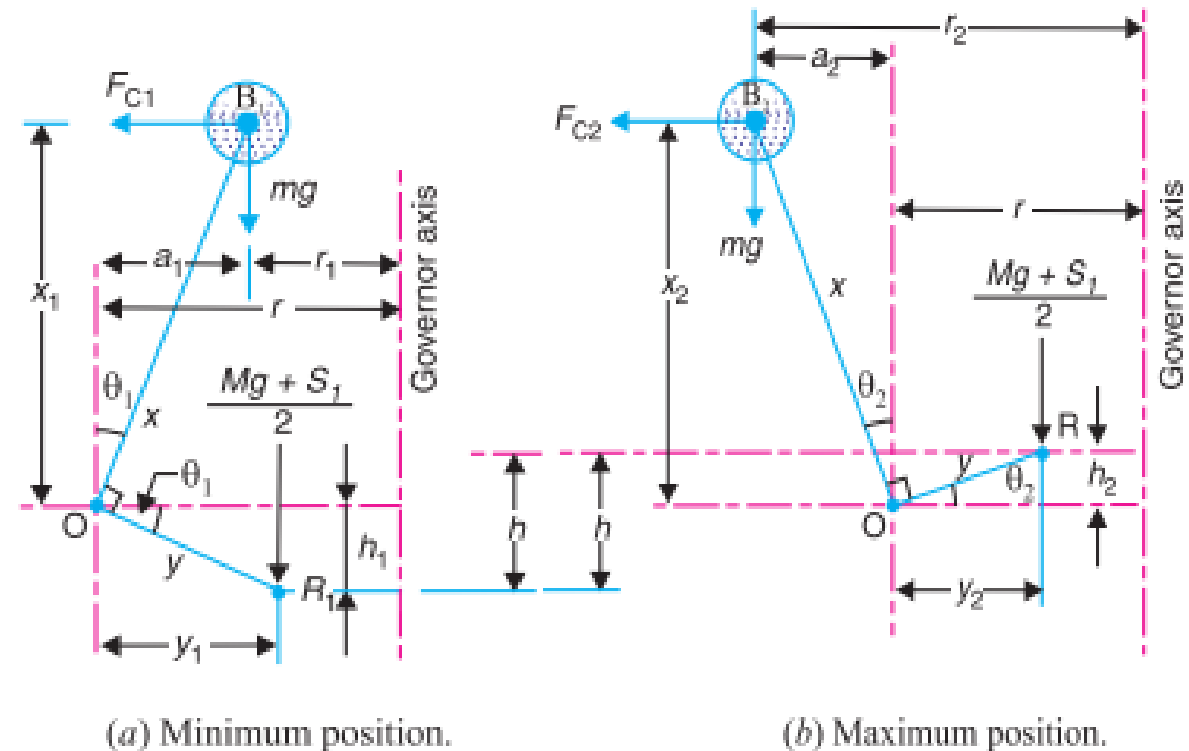

Fig. 3. Line diagram
- For the minimum position *i.e.* when the radius of rotation changes from r to r_1 , as shown in Fig. 3(a), the compression of the spring or the lift of sleeve h_1 is given by:
- Similarly, for the maximum position *i.e.* when the radius of rotation changes from r to r_2 , as shown in Fig. 3(b), the compression of the spring or lift of sleeve h_2 is given by